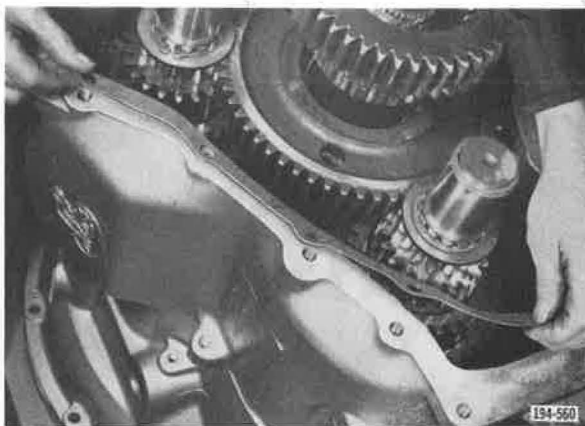

Figure 5-970. Installing Gasket
1. Install a new front case to rear case gasket. See Figure 5-970.